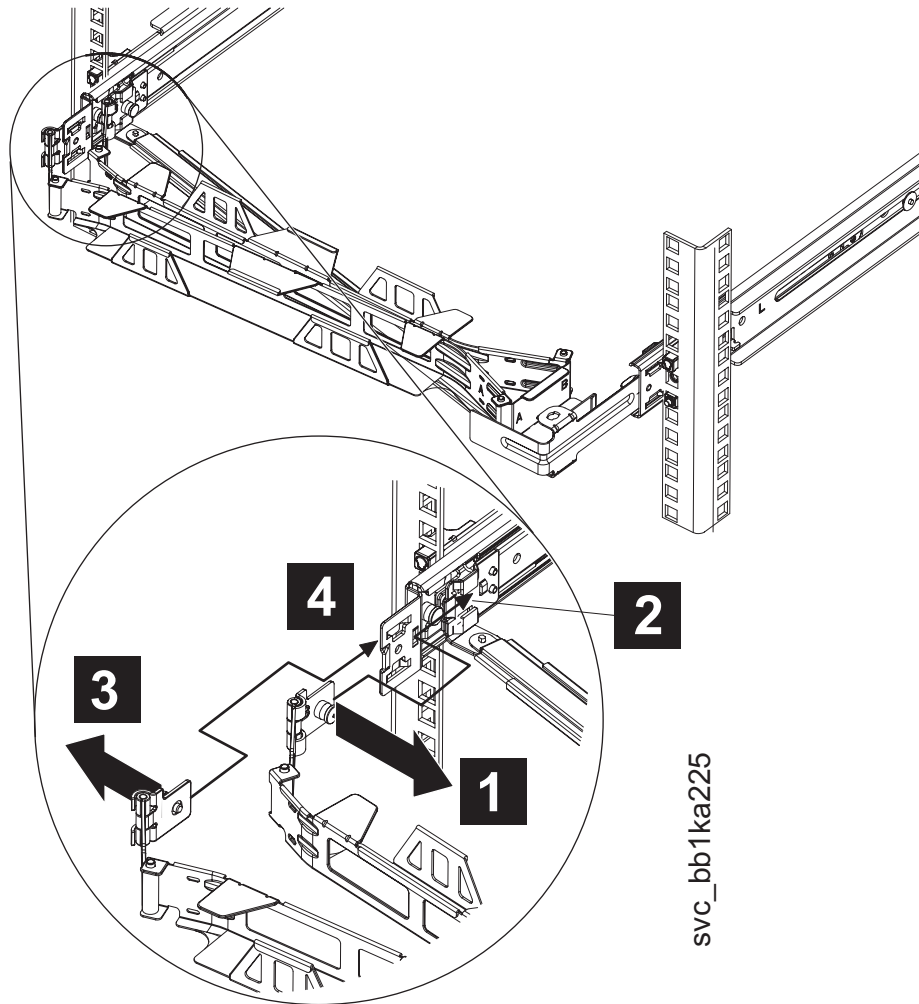

Figure 11. SAN Volume Controller 2145-CF8 cable-management arm on the support arm
- a. Pull out the cable-management arm pin, as shown by **3** in Figure 11 on page 28, then slide the cable-management arm tab **4** on the outside of the slide rail.